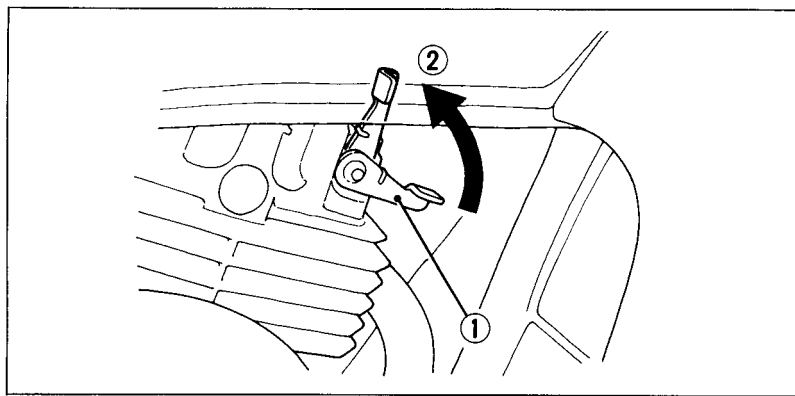

Fig. 2-12
4. Raise the decompression lever (Fig. 2-12), located on the right side of the engine, to the "Decomp" position (2).